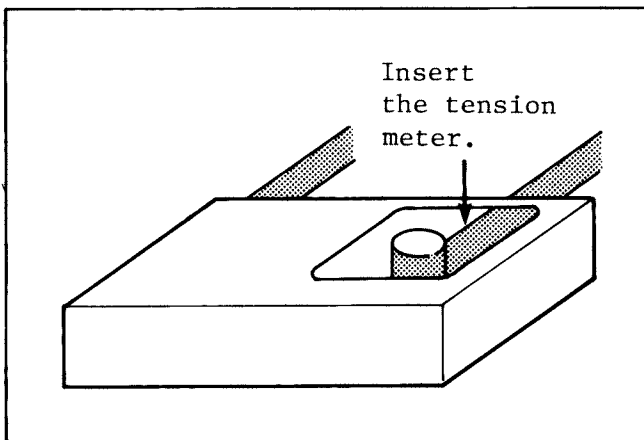

Fig. 2-3-4. REEL MOTOR VOLTAGE ADJUSTMENT
4. Insert the tension meter in the cassette like Fig. 2-3-4.